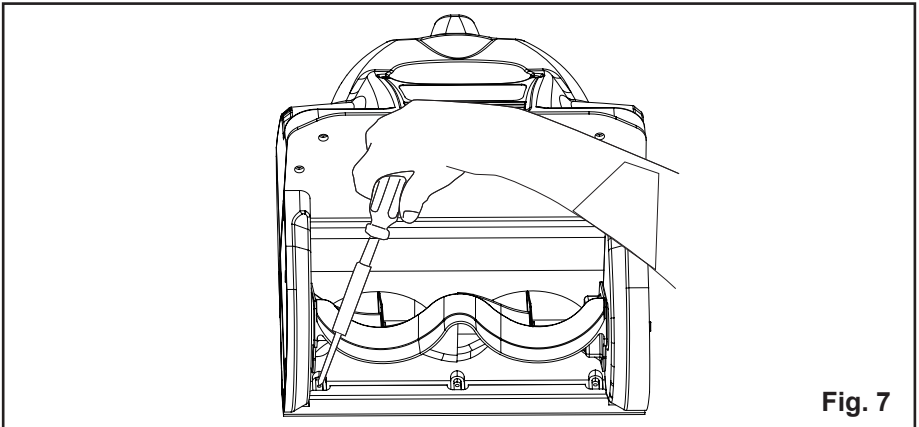

Fig. 7
REPLACING THE SCRAPER (See Figure 7)
- Remove the three (3) screws that are located beneath the impeller that secure the scraper to the housing using a phillips screwdriver. (Fig. 7).
- Snap the new scraper into position, and attach it to the Snow Shovel by reinstalling the three (3) screws.